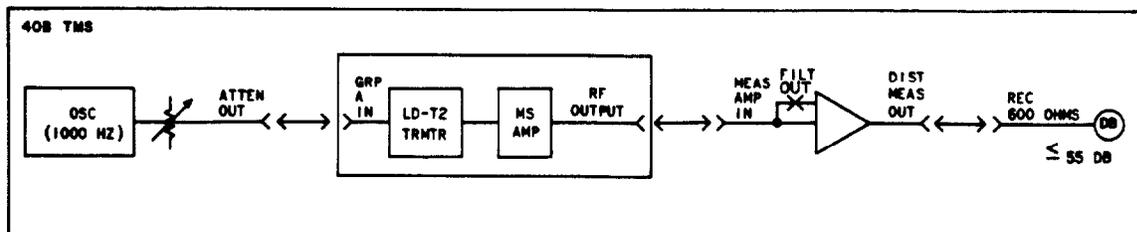

Fig. 6
- 9 Disconnect the patch of Step 8; connect the 1000-Hz output of the 40B TMS to the GROUP A input of the LD-T2 transmitter and measure the output of the MS amplifier RF OUTPUT jack (Fig. 6).